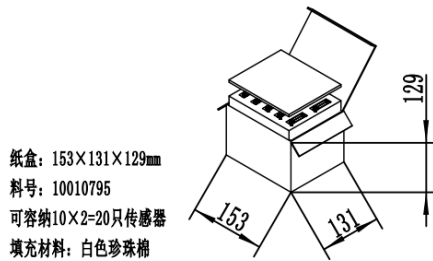

Figure 11-inner box
- Put the whole plate of sensors in Small Box one by one (Figure 11), then puts a foam plate at the top. Each Small Box can hold 20 sensors.